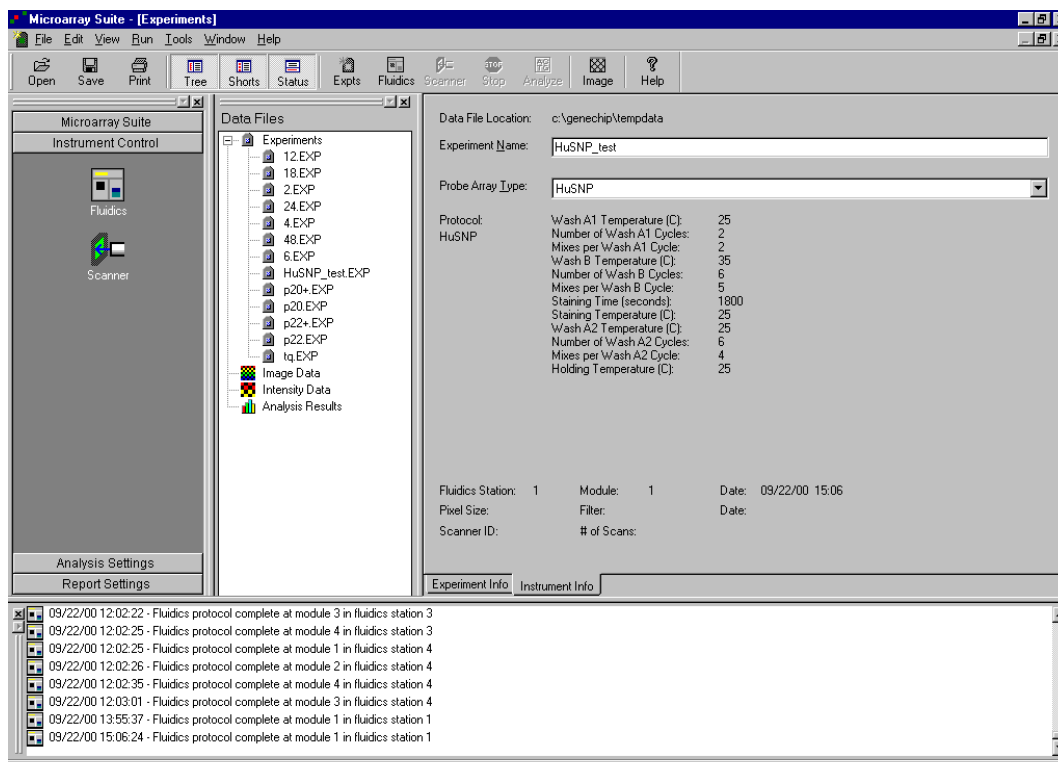

Figure 4.4 Hybridization and scan information
5. Click the **Instrument Info** tab to view information about the fluidics protocol and scanning parameters captured by Microarray Suite after the probe array is processed in the fluidics station and scanned (Figure 4.4).